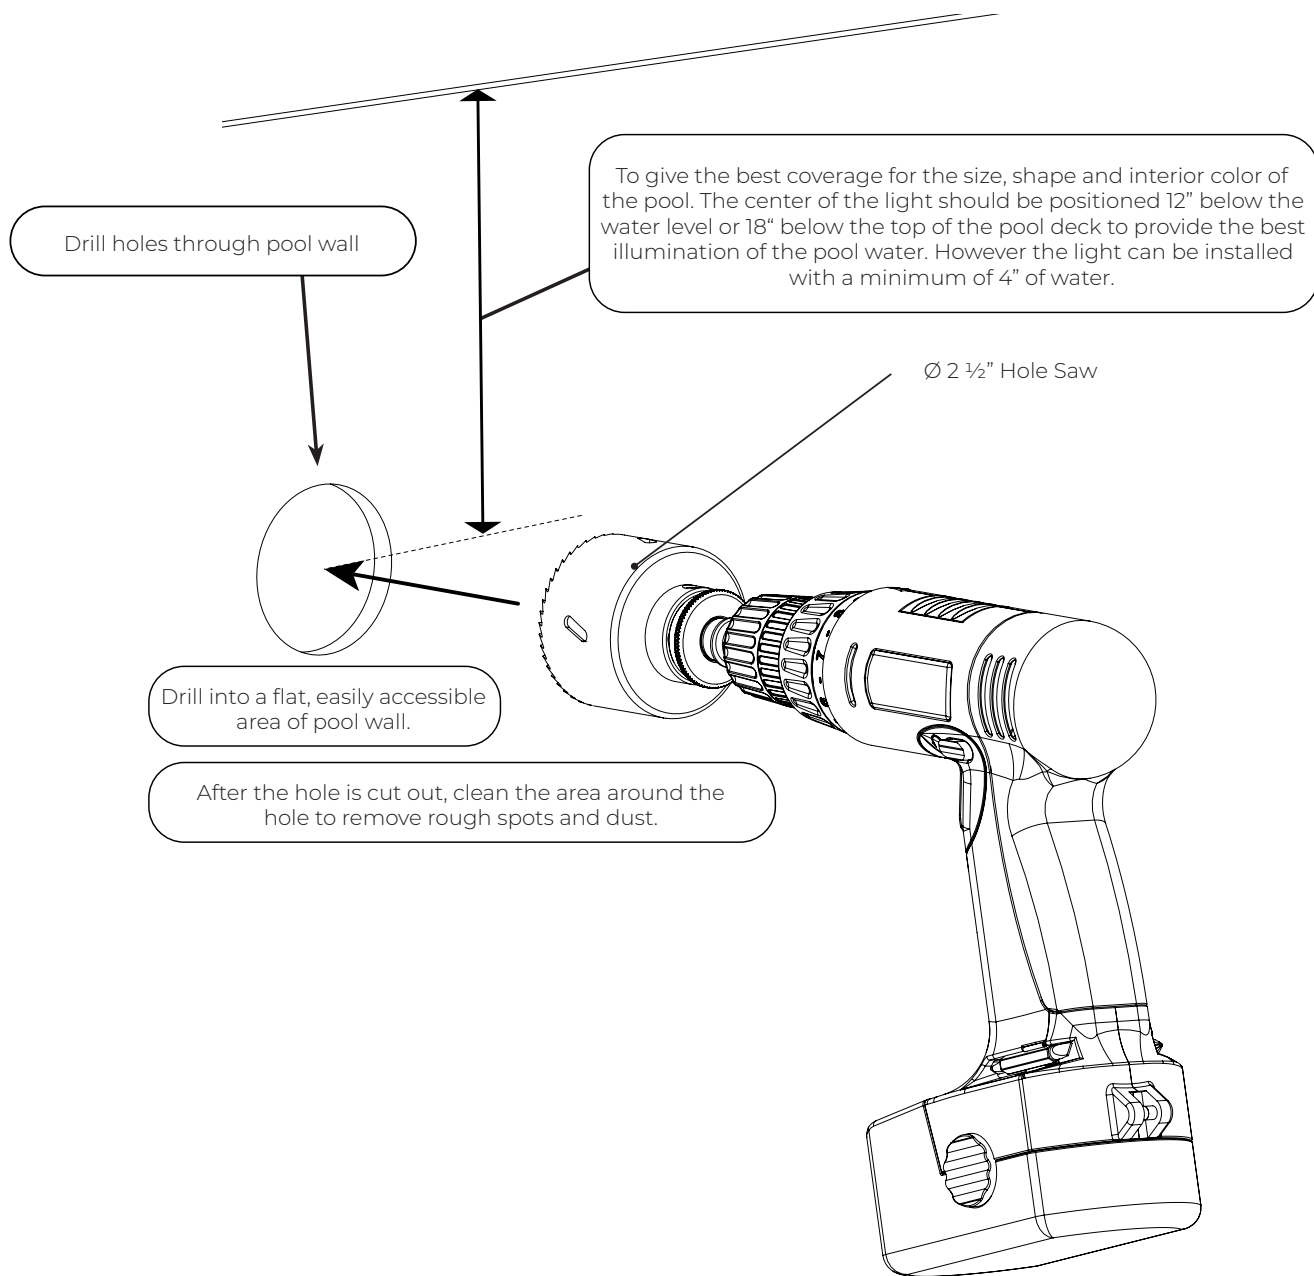

FIG. 5
1. Cut hole in pool shell (FIG. 5) and install the wall fitting as per manufacturer guidance. Follow the instructions from Section 3.2 for light installation.